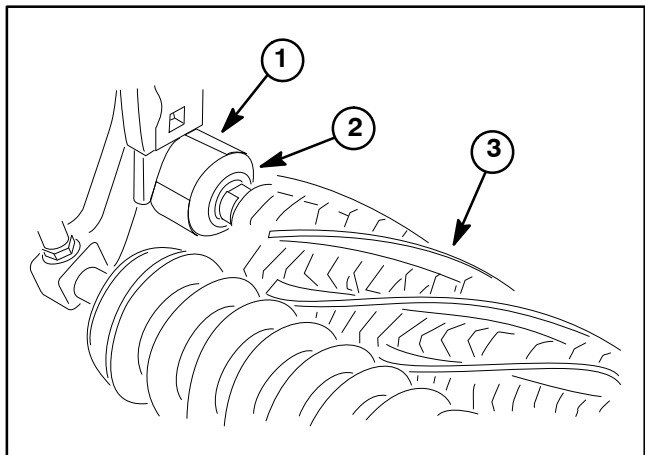

Figure 15
7. Check that excluder seals just touch groomer plate assembly (Fig. 15). Reposition excluder seals on groomer shaft if needed. Excluder seal ID should be located on groomer shaft surface that is recessed slightly.